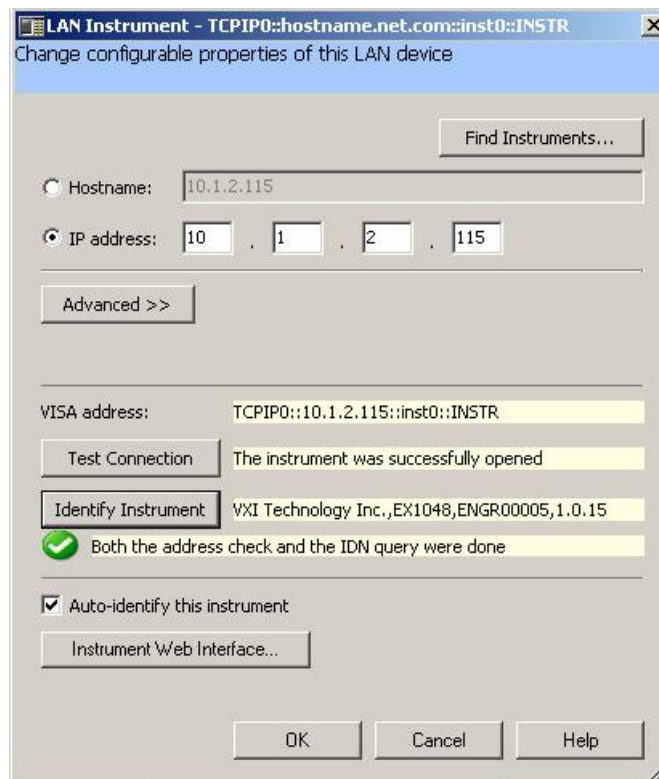

FIGURE 2-7: EX1048 DISCOVERY CONFIRMATION
- 9) The instrument is now configured. Click the **OK** button (see Figure 2-7).